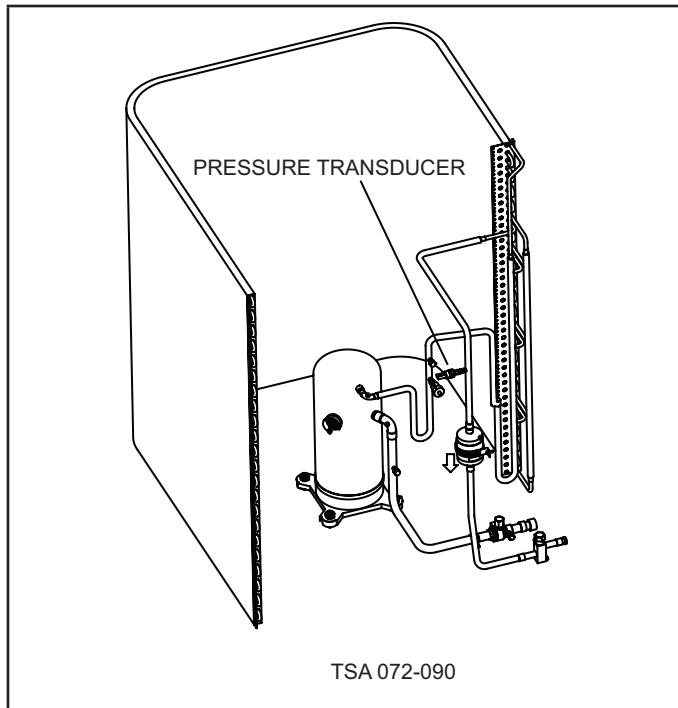

FIGURE 2. Pressure Transducer Location
- 7 - Install the pressure transducer (ICM380) to the valve core of the valve depressor on the liquid line. Refer to figure 2.